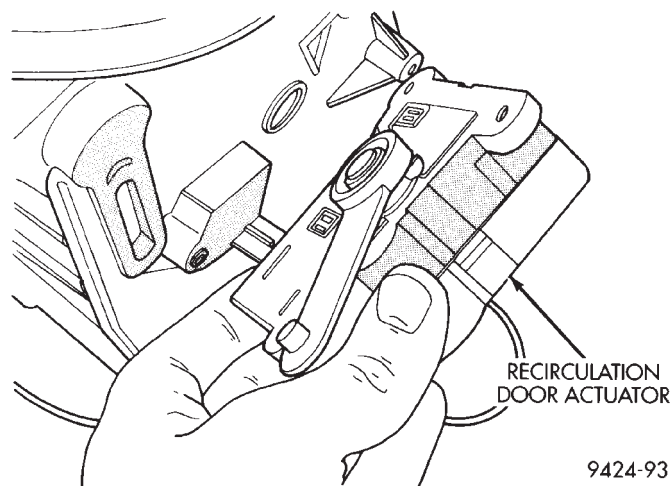

**Fig. 39 Recirculation Door Actuator**
- (1) Disconnect battery.
- (2) Remove heater housing from vehicle. Refer to Heater-A/C Housing Removal and Installation in this section for procedure.
- (3) Remove recirculation door actuator (Fig. 39).